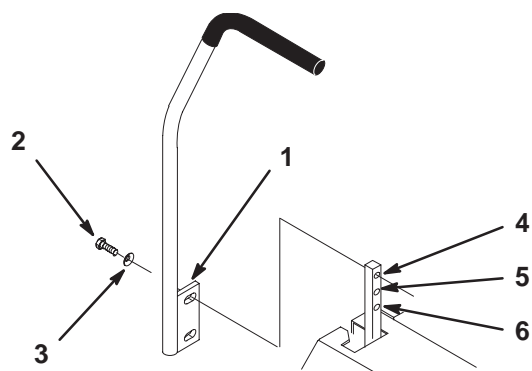

Figure 3
1. Remove the 4 bolts (3/8 x 1 in.) and 4 spring washers (3/8 in.) which attach the motion control levers to the control arm shafts for shipping (Fig. 3).
- Place the levers (with the mounting plate toward the rear) on the outside of the control arm shaft and secure them with 4 bolts (3/8 x 1 in.) and 4 spring washers (3/8 in.) (Fig. 3).
- Align the front/rear position of the levers, with each other, in the neutral position. Loosen the hardware and adjust by sliding/tilting the lever(s) forward or backward until they are properly aligned (Fig. 3).